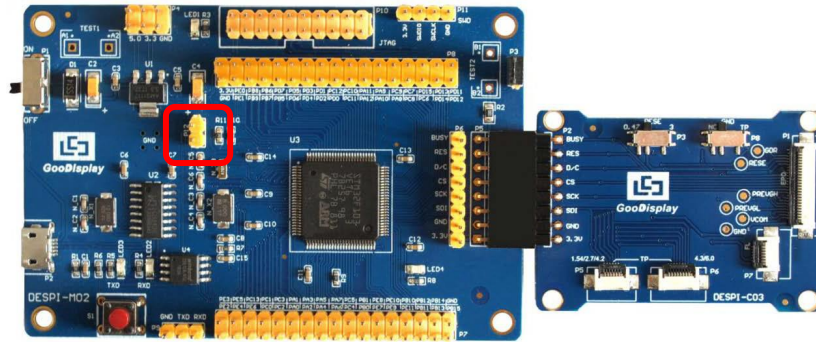

Figure 14 : The position of P12
- 3) Connect P12 with a short-circuit jumper, the position of P12 is shown in Figure 14.